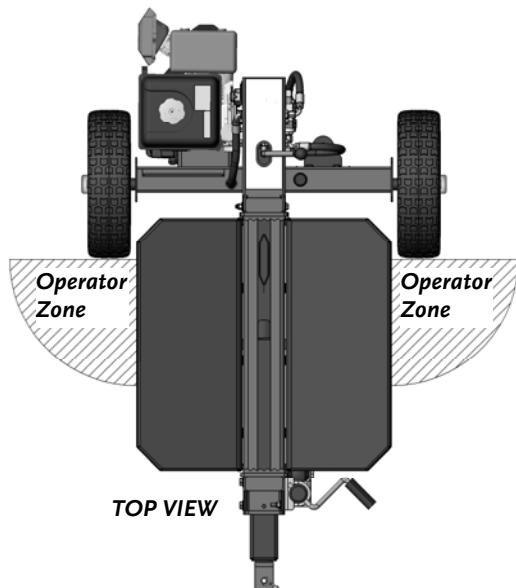

Figure 26
- When operating the Log Splitter, make sure you are standing in the safe operating area (OPERATOR ZONE) (**Figure 26**). You must stay in the safe operating area at all times when the splitting wedge is in motion (whether extending or retracting). Never place any part of your body into a position that causes an unsafe operating condition.